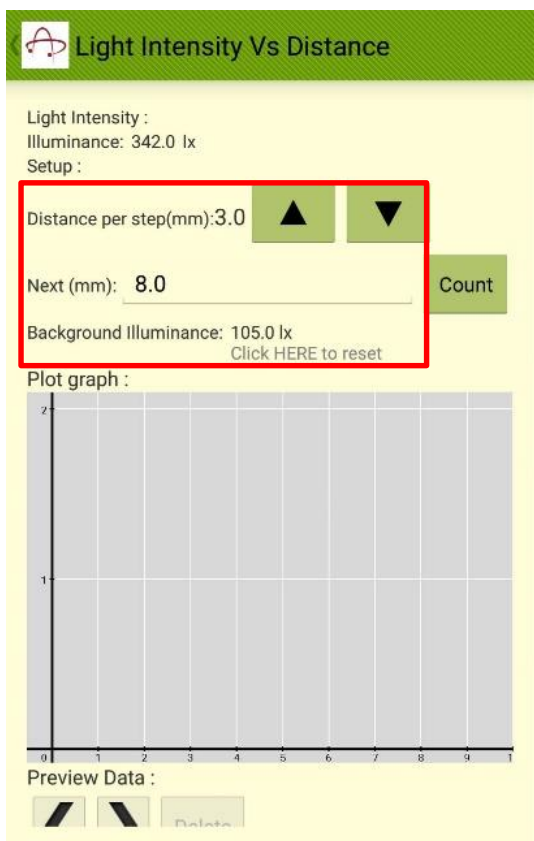

Fig 5.21
- Press the space next to “Background illuminance” to count the background light intensity. The background light intensity will be shown in the space (Fig 5.21). The illuminance reading will show a normalized value after eliminating the background light, so that you can detect the illuminance of a single object more accurately. Press again to reset the background value if necessary.
- Press the “Up/Down Arrow” to increase/decrease the “Distance per step” by 0.1mm. The example below is set to 3.0mm. Given that the starting point at 5.0mm, the next data point will be 8.0mm (Fig 5.21).